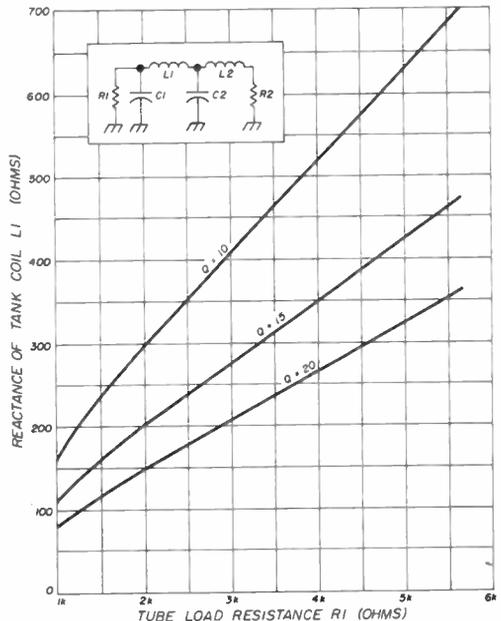

fig. 17. Tank-coil reactance (L1) as a function of tube load resistance for pi-L networks.
5. Find the reactance of the tank coil (L1) from fig. 17. For the case of the 3-1000Z operating with a load resistance of 2250 ohms, the reactance of the coil is approximately 215 ohms.